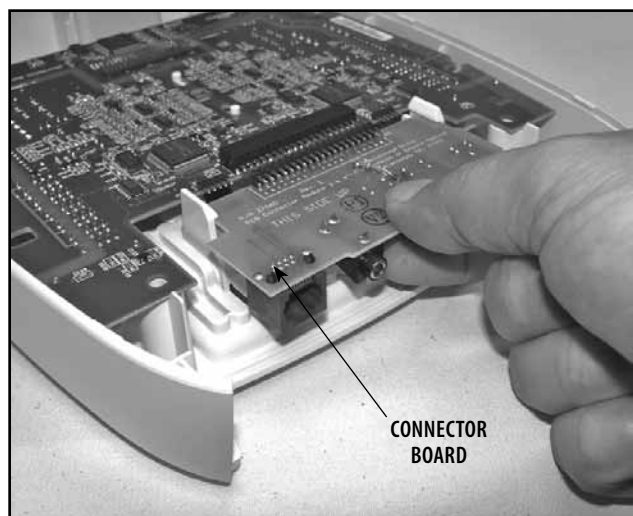

FIGURE 6.51
3. Remove Module Connector Board. See Figure 6.51.